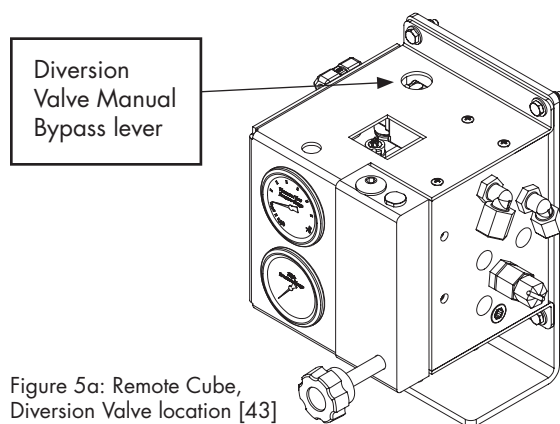

Figure 5a: Remote Cube, Diversion Valve location [43]
7. Ensure that the manual By-Pass lever on the Diversion Valve [43] is positioned outward (away from the coil body). The manual bypass lever may be locked in the bypass position by pressing it in fully and then twisting 90° clockwise. To unlock, twist the button 90° counter-clockwise. See fig 5a below for location of the access hole to the Diversion Valve [43].